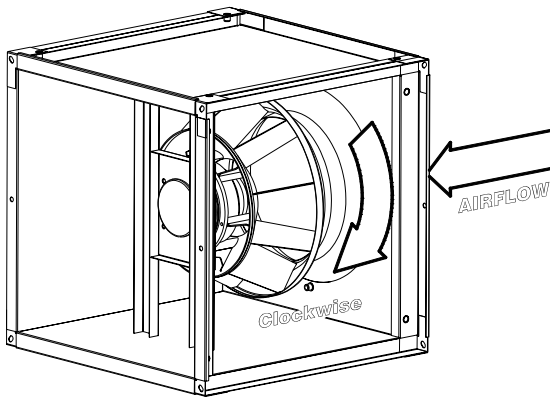

Fig.2 As viewed from the back of the impeller - correct rotation of impeller
Motor and electrical details must be checked prior to connection to electricity supply. All motor information can be found on the unit data sheet supplied attached to the unit. Always make sure the fan is rotating in the correct direction. Direction of flow is indicated on the unit, if unsure refer to *fig.2*.
**Note:** A trial connection of the three phase (3Ph) supply should be made to check that the fan rotates in the correct direction as indicated on the fan. See Fig.2. If the rotation is incorrect, interchange any two phases of the incoming supply at the terminal block.